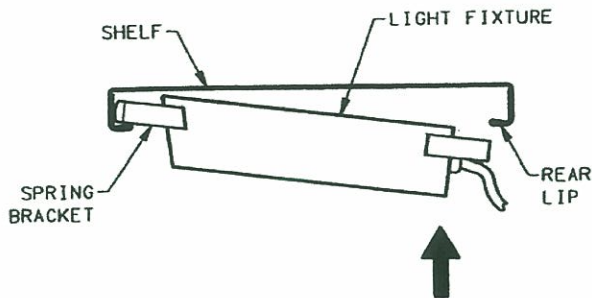

Figure 9
3. Pull light fixture forward, this will deflect front of spring brackets, until back of spring-bracket clears rear lip of shelf. Raise fixture up flat against bottom of shelf. See Figure 9.